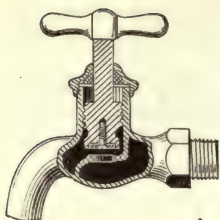

FIG. 66. — Cross section of common faucet.
74. Hydrants and faucets. The only parts of this great system of water pipes which we ordinarily see are the **hydrants** on the edge of our sidewalks, and the **taps** or **faucets** at our sinks and bathtubs. These are merely valves for opening and closing the pipes. The internal construction of the ordinary tap is shown in figure 66. The handle operates a screw which forces a disk, faced with a fiber washer, against